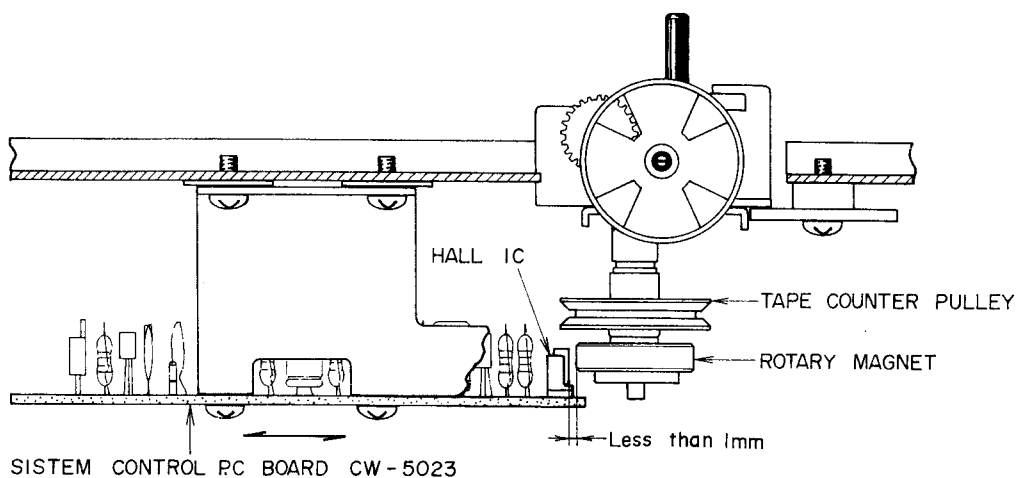

Fig. 4
- 1) As shown in Fig. 4, move System Control P.C Board as indicated by the arrow mark in the figure and adjust position so that the clearance between the Hall IC and rotary magnet is within 1 mm.